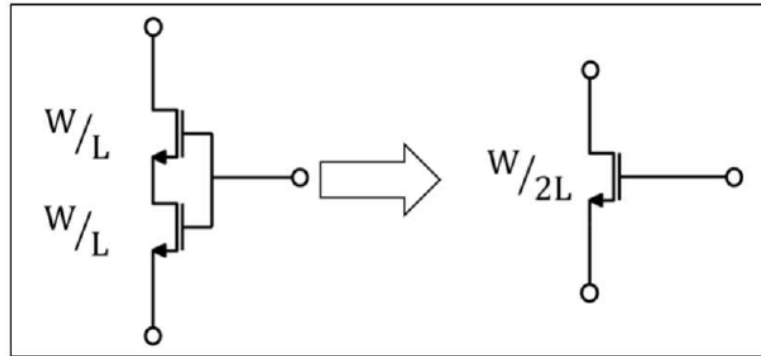

Figure 7. Stacked MOS devices
- **Students can use stacked devices to increase the effective channel length of the MOS, as shown in Figure 7.**